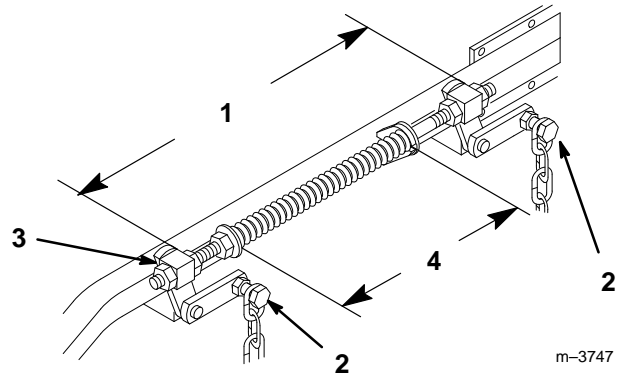

Figure 45
6. Loosen four (4) top chain bolts in slots. Check the length of the rod/swivel assemblies. Distance from outside of rear swivel to outside of front swivel should be 20-1/4" (514 mm) (Fig. 45). Make sure that all four swivels move freely in holes.
8. Lift up on four (4) top chain attachment bolts, in the slots, to take slack out of chains and tighten flange lock nuts. (Deck is still supported by two rear and one front blocks under mower)
13. Springs are compressed so the distance between the two large washers should be 11-1/2" (292 mm) (Fig. 45).
14. Adjust by turning nut in front of each spring (Fig. 45). (clockwise will shorten spring, counter-clockwise will lengthen spring)